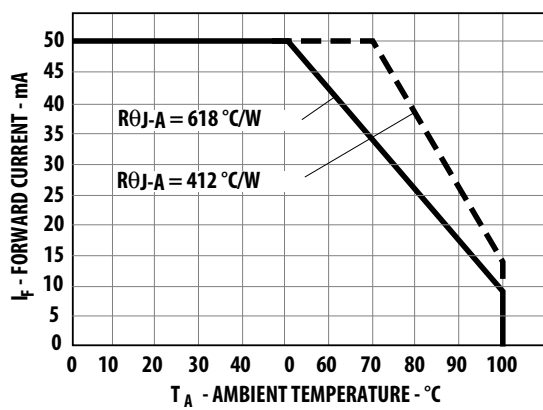

Figure 4. Maximum Forward Current vs. Ambient Temperature. Derating Based on TJMAX = 110 °C.
1. Derate linearly as shown in Figure 4.